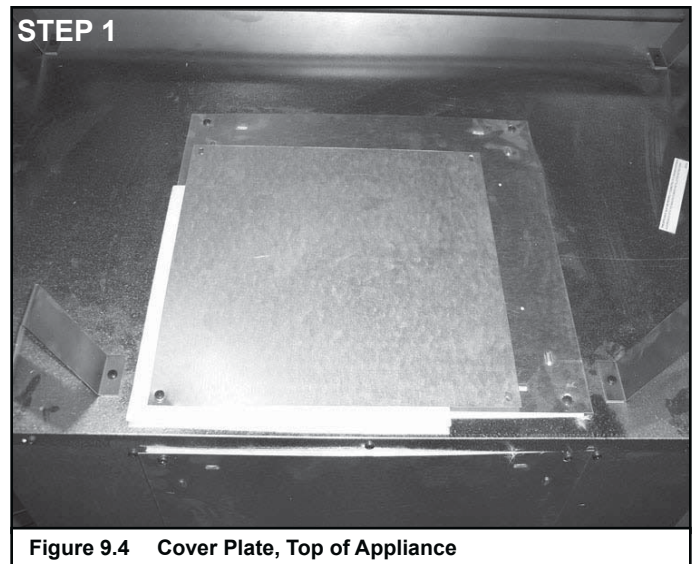

Figure 9.4 Cover Plate, Top of Appliance
- Remove the screw holding heat shield cover plate and gasket to top of appliance (Figure 9.4). Set cover plate aside.